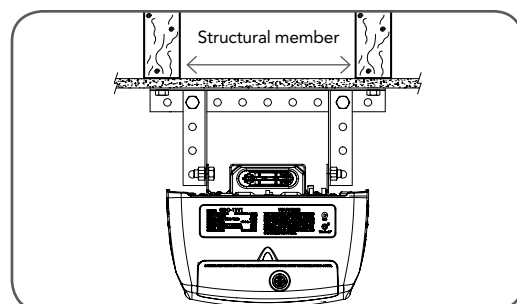

fig 19
- Secure the perforated angle (not supplied) to the ceiling above where drive unit's mounting holes will be once fully installed. A representative mounting is shown (**Fig. 19**)
- Secure the perforated angle (not supplied) to the ceiling above where drive unit's mounting holes will be. See (**Fig.19**) for a representative mounting.
- Connect the drive unit to the ceiling mounted perforated angle with M8x20mm screws and nuts. Strips should not extend more than 18mm below centre of drive unit mounting holes (**Fig. 19**).